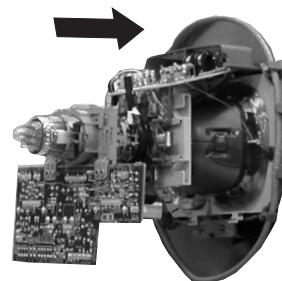

Figure 1
4. Move the deflection yoke backwards, (See Figure 1) and adjust with the purity control so that green is in the center and red and blue are even on both sides.